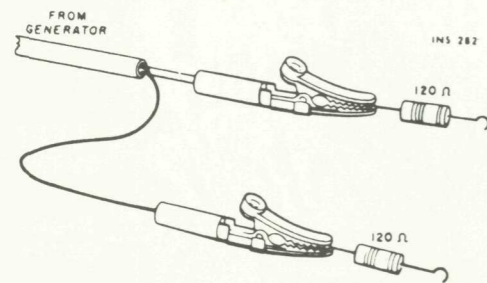

FIGURE 1. GENERATOR CONNECTIONS.
- Connect an RF generator to the NORM antenna terminals. Use a 120-ohm composition resistor in series with each lead from the generator—see Figure 1.